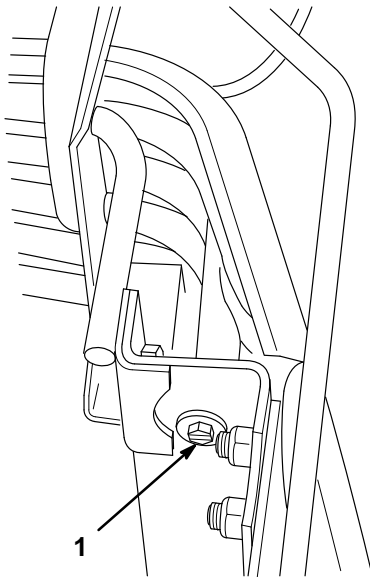

Figure 10
4. Remove the tractor's front grill by raising the hood and unscrewing the two screws and washers securing it in place (Fig. 10). Close the hood and remove the grill by pulling it out toward you.
12. Replace the front grill of the tractor, securing it with the two previously removed screws and washers (Fig. 10).